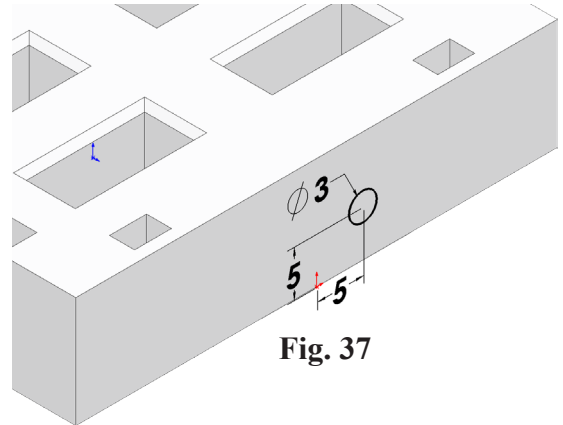

Fig. 37
Step 2. Click **Circle**  (S) on the Sketch toolbar.
Step 3. Sketch **circle to the right (rear) of Origin**  , **Fig. 37**.